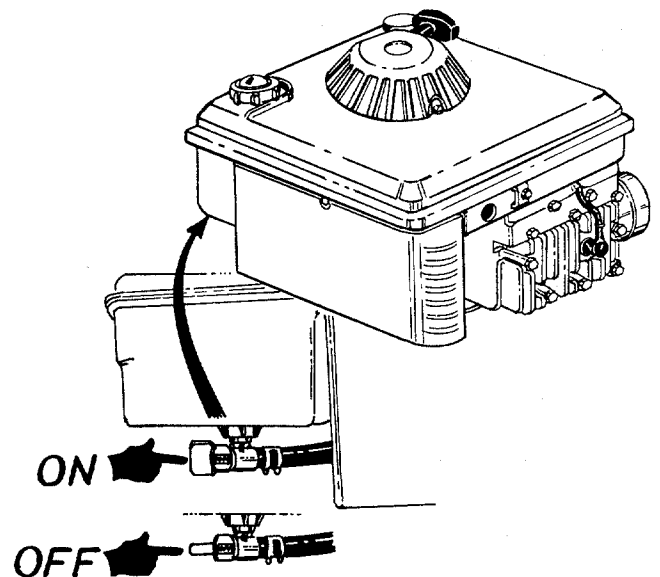

FIGURE 28.
Before assembling the top catcher panel and grass catcher to the unit, open the fuel shut-off valve on the engine. Refer to "Before Starting" section and figure 28 on page 13.
4. Open fuel shut-off valve, located beneath the fuel tank. See figure 28.